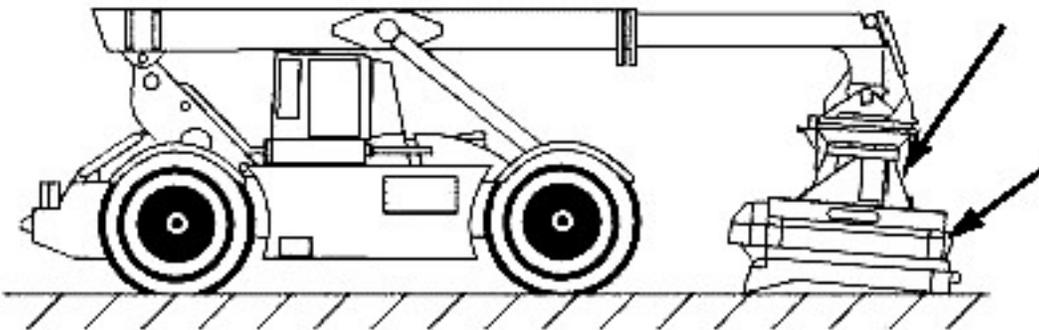

Figure 3-173
2. Position tophandler directly over and level with forklift kit (see Figure 3-173).